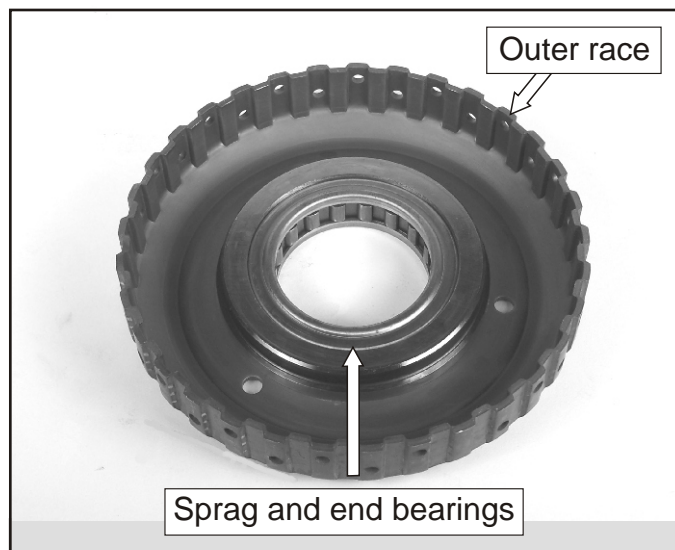

Figure 130
76. Remove the sprag and end bearings from the outer race, as shown in Figure 130, and check for wear in the area where the sprag rides. Replace as necessary.